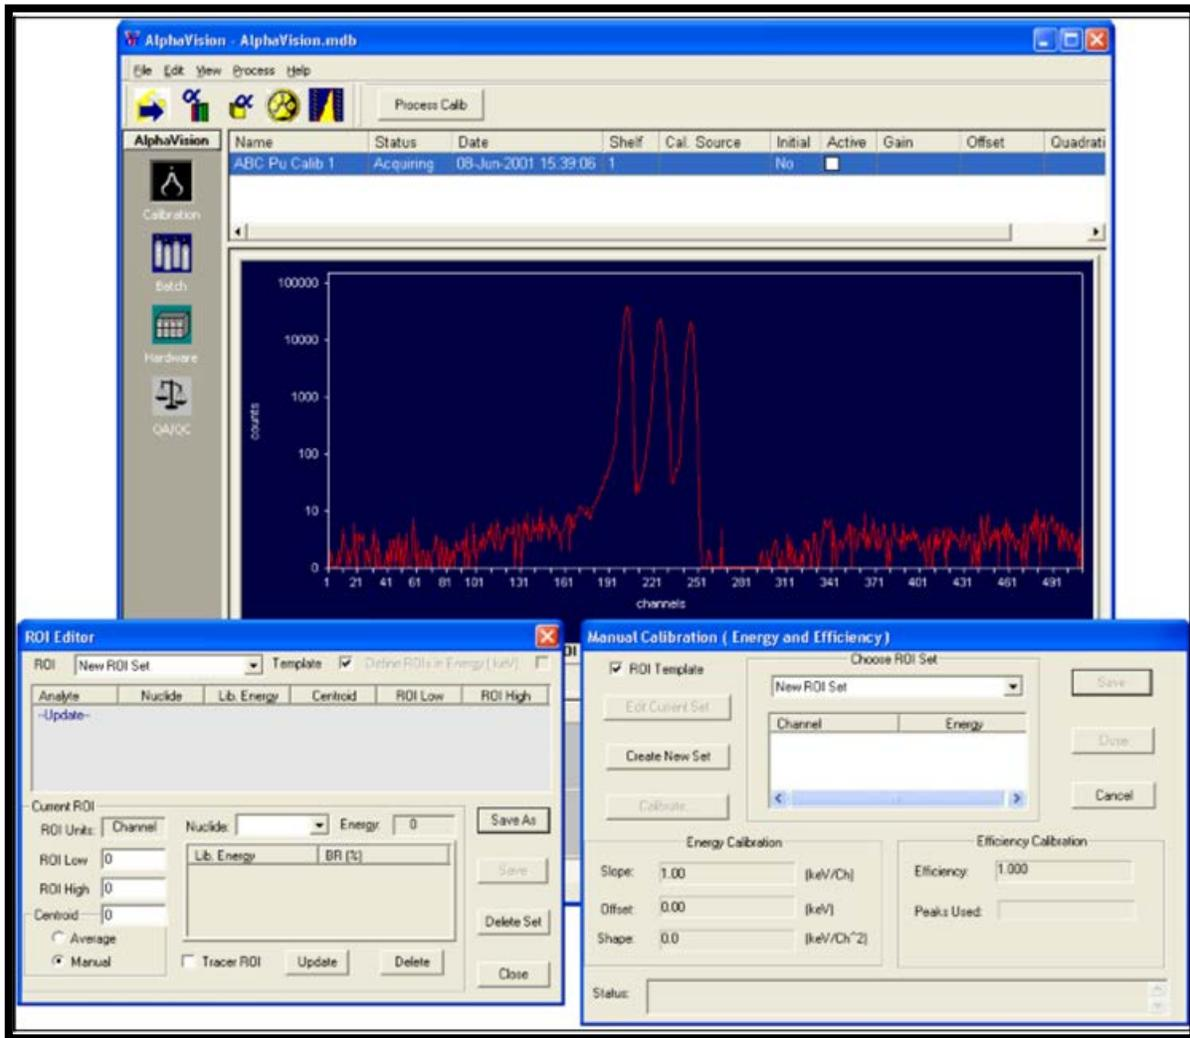

Figure 82. Ready to Create ROI Set as Part of Calibration
- 2) The ROI Editor will open. Figure 82 shows AlphaVision screen, ROI Editor, and calibration dialog as they might be seen during a typical calibration.